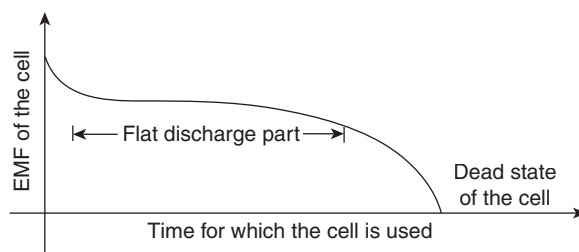

Figure 20 Flat discharge rate.
- A good battery is one which has a flat discharge rate (constant EMF) (Figure 20).